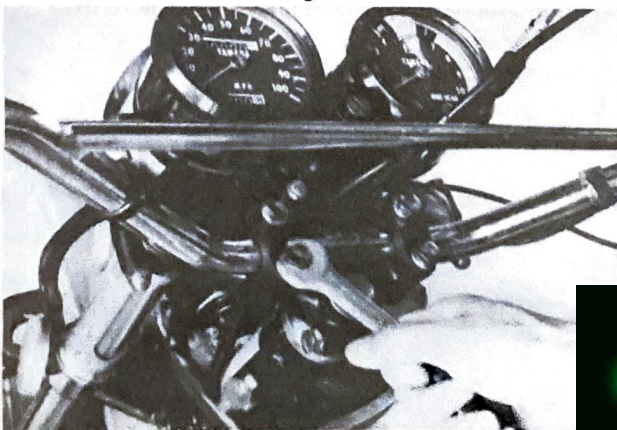

Fig. 17
13. Install the handle bar ass'y using the two handle upper holders and bolts (removed in # 13). (Fig. 17)